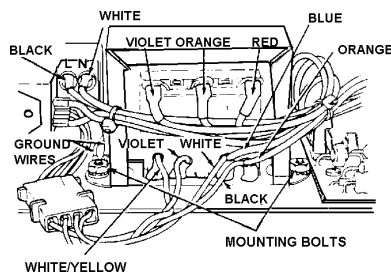

Figure 30. Transformer Replacement.
- e). Remove the two nuts holding the transformer to the chassis (See Figure 30). Lift out transformer.
- f). Before installing the new transformer, make certain the two green ground wires are mounted over the left side mounting stud (See Figure 30).